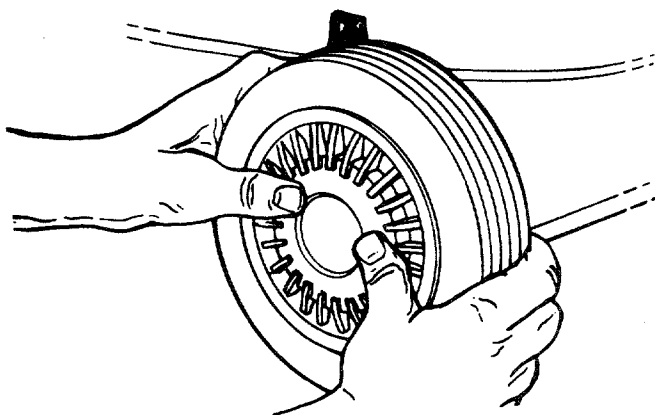

FIGURE 10.
2. Place hub caps in position against the inner hub of the wheel. Press firmly around the center portion of hub cap in a circular motion, similar to installing a lid on a round, plastic container. See figure 10. The hub caps are flexible and will snap over the 3-1/2" diameter wheel hubs.